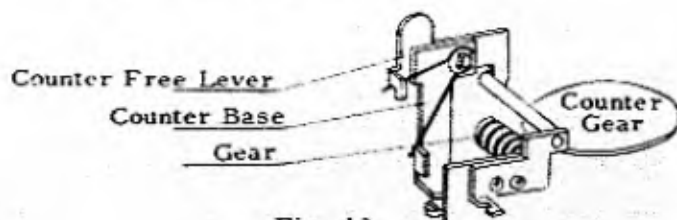

Fig. 13
- 3) When Counter Free Lever is positioned at the same place as Counter Base 39-9857, the Gear and Counter Gear should be completely dis-engaged. See Fig. 13.